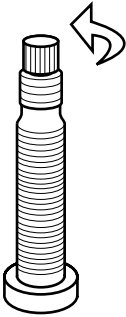

Figure 45. Turn valve counter clockwise.
1. Turn valve counter-clockwise. Give it a firm twist to lock in fully-open position which prevents it from vibrating closed while riding (Figure 45).